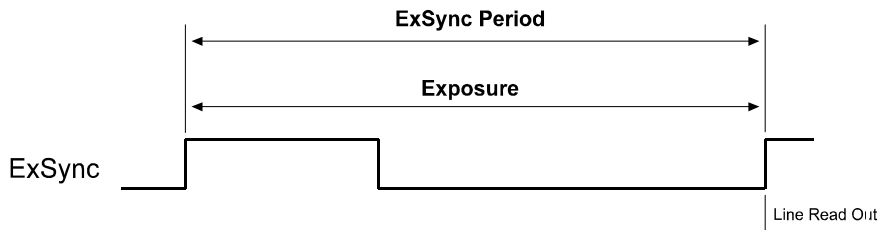

Figure 3-3: ExSync, Edge-Controlled Mode
- In **ExSync edge-controlled** mode, the pixels are exposed and charge is accumulated over the full period of the ExSync signal (rising edge to rising edge). The falling edge of the ExSync signal is irrelevant. The lines are read out and transferred on the rising edge of ExSync. (see Figure 3-3).